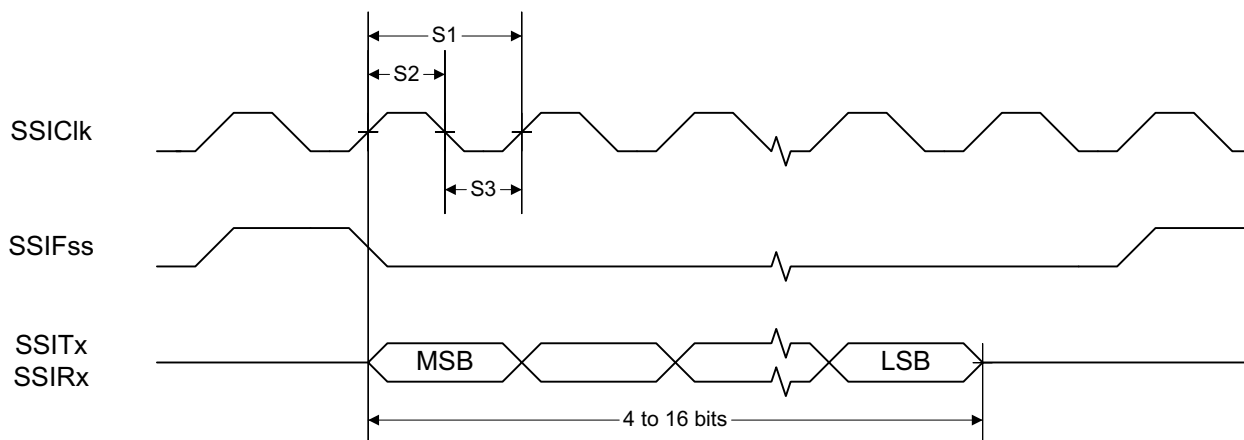
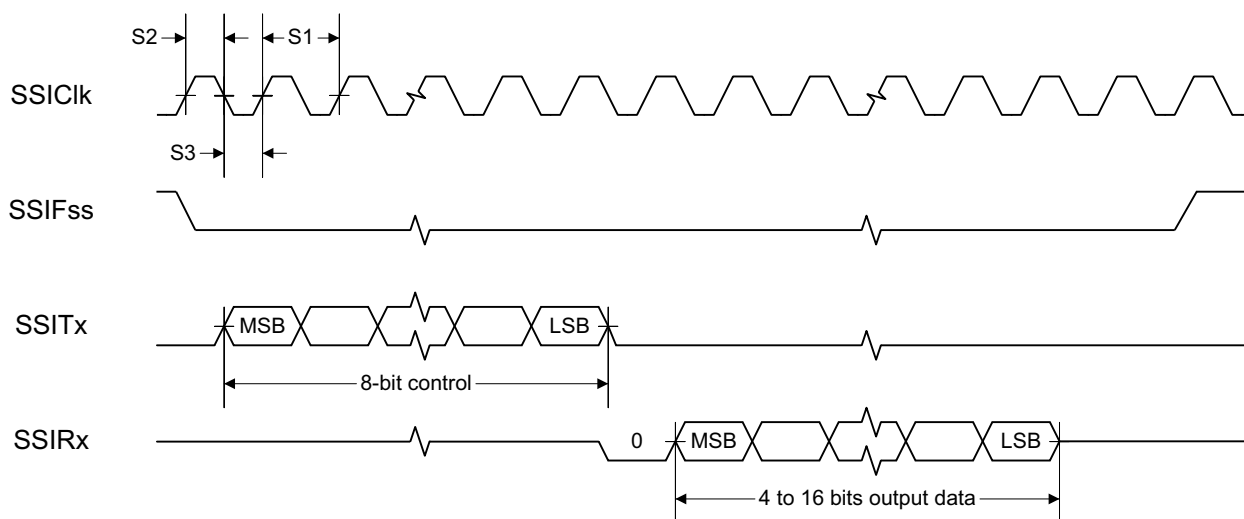
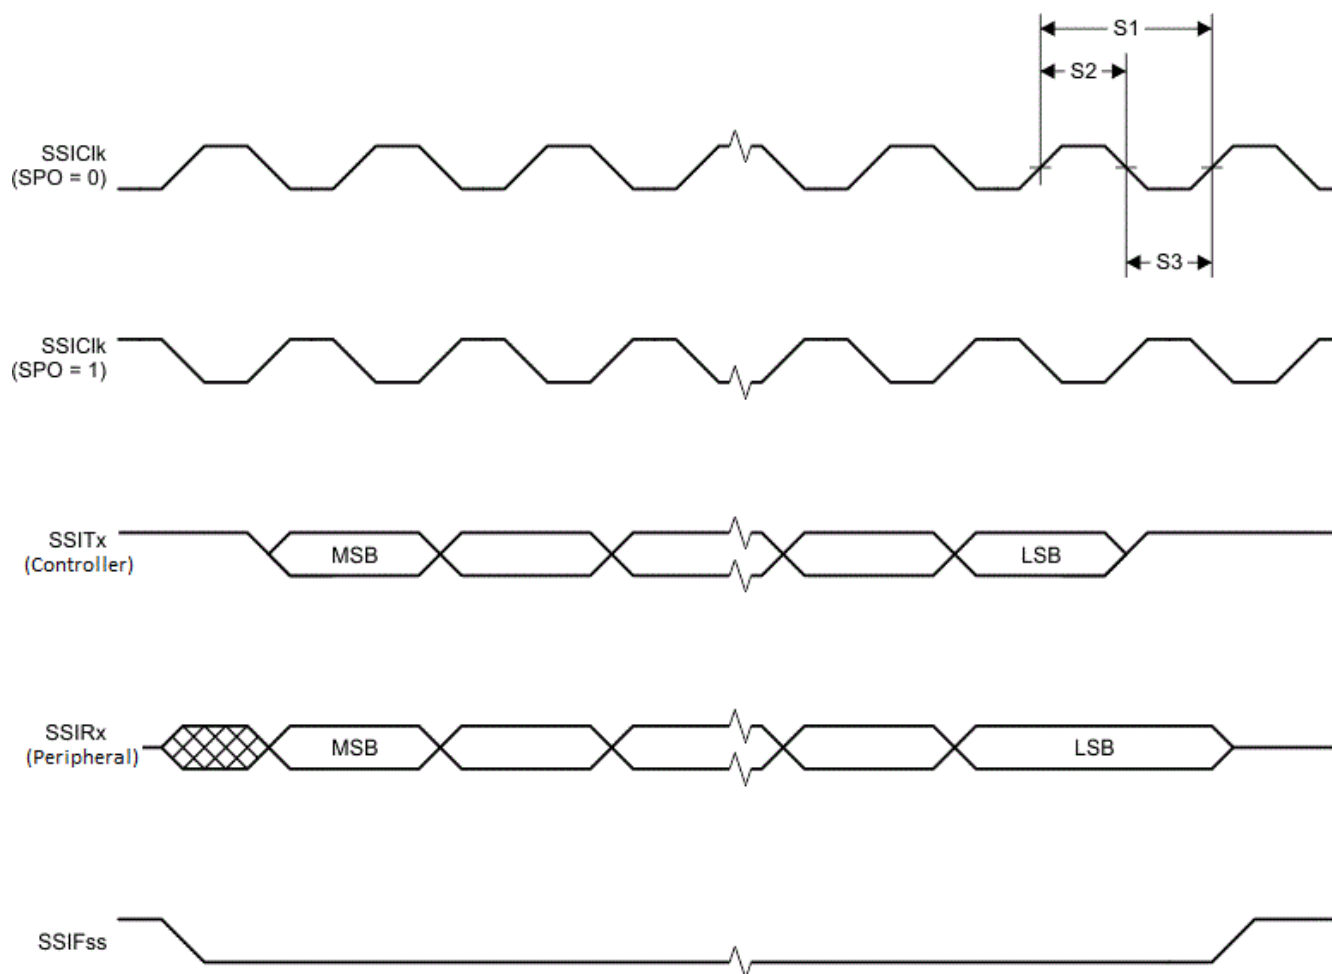

Figure 8-1. SSI Timing for TI Frame Format (FRF = 01), Single Transfer Timing Measurement
Figure 8-2. SSI Timing for MICROWIRE Frame Format (FRF = 10), Single Transfer
Figure 8-3. SSI Timing for SPI Frame Format (FRF = 00), With SPH = 1
- (1) Refer to SSI timing diagrams Figure 8-1, Figure 8-2, and Figure 8-3.
(2) When using the TI-provided Power driver, the SSI system clock is always 48 MHz.